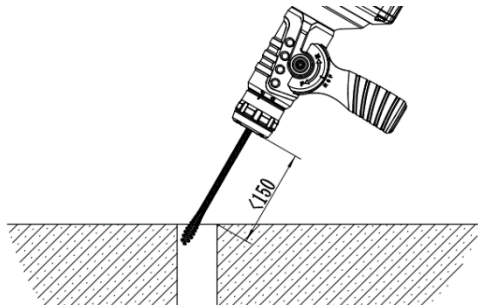

Figure 7
1. Please place the tool head at a distance of less than 150 mm from the pipe opening. If the distance is greater, the flexible shaft can twist and knot. If the distance is too short, the condition of the wave can be poorly observed. (Fig. 7).